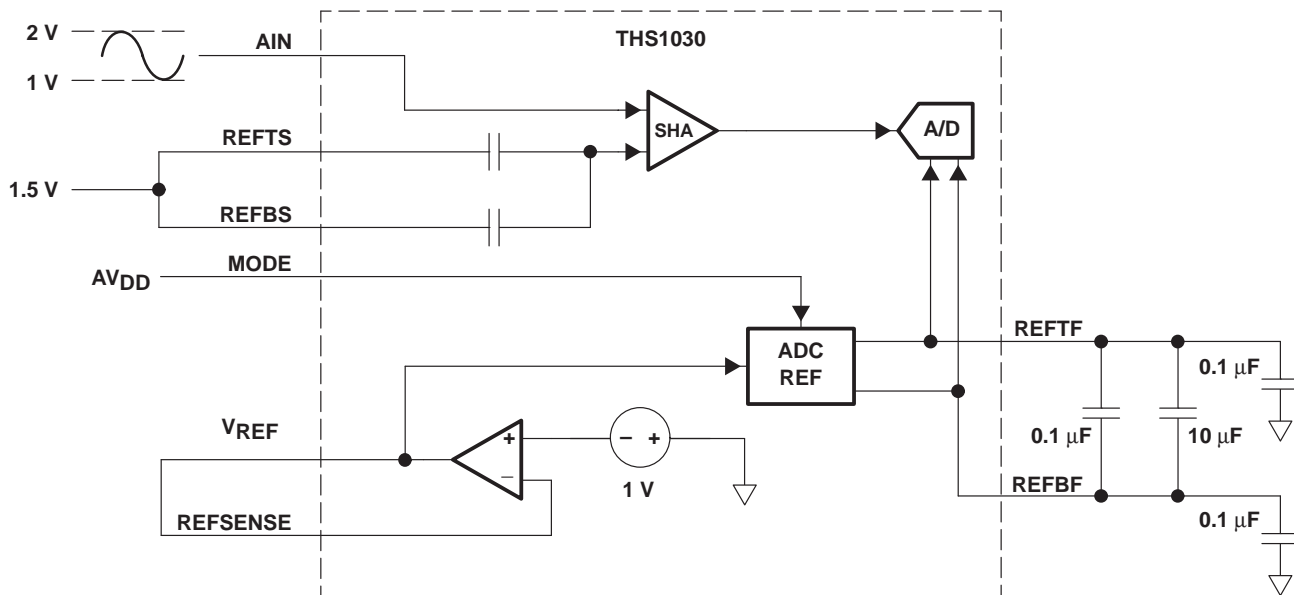

Figure 16. External Input Common Mode
- **Internal ADC Reference Mode With External Input Common Mode:** The input common mode is supplied to pins REFTS and REFBS while connected together. The input signal should be centered around this common mode with peak-to-peak input equal to the voltage on the  $V_{REF}$  pin. Input can be either dc-coupled or ac-coupled to the same common mode voltage (see Figure 16) or any other voltage within the input voltage range.